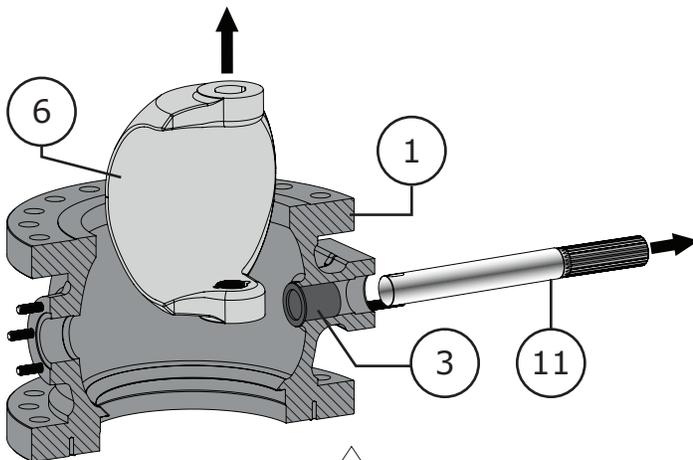

Figure 27 16 Inch Follower Shaft Removal
- 8 Remove the drive shaft (Key 11) from the actuator side of the valve (inboard side). Once the drive shaft has been removed, remove the ball from inside the valve body. Refer to Figure 27.